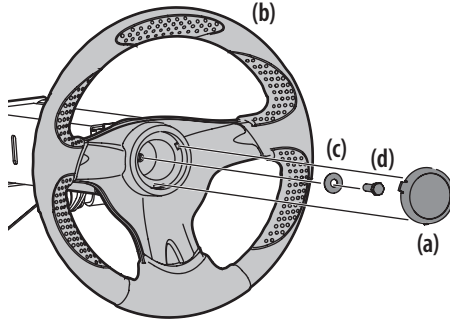

Figure 6
1. Remove the hardware for attaching the steering wheel from beneath the steering wheel cap (a). Carefully pry off the steering wheel cap (a) to remove the hardware. See Figure 6.
2. With the wheels of the machine pointing straight forward, place the steering wheel (b) over the steering shaft. See Figure 6.
3. Place the Belleville washer (c) over the steering wheel (b) and secure with the hex lock screw (d). See Figure 6.